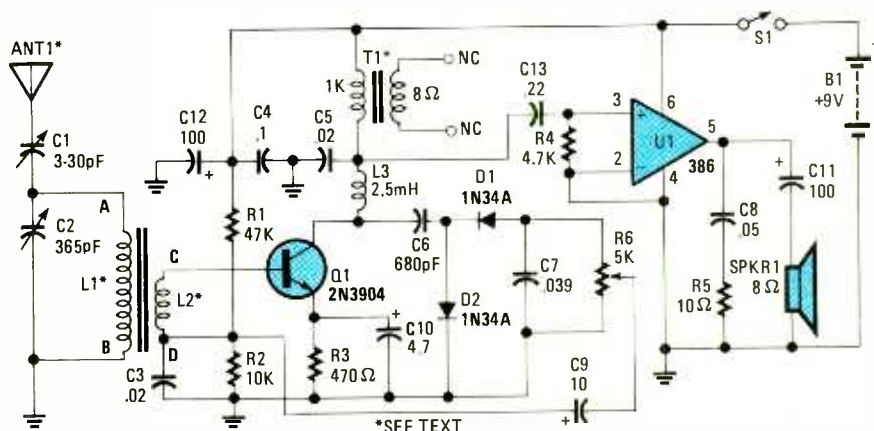

Fig. 3. Our solid-state version the Reflex Receiver is based on a popular circuit of the 1920's.
**Reflex Receiver.** Our second receiver's design, shown in Fig. 3, is based on a popular radio-reflex circuit of the 1920's. At that time radio was just catching on and home-made sets were being built at a fever pitch among experimenters. Back then, component pricing governed the pace of assembling a receiver; for example, the cost of a single receiving tube could be as much as a good day's wage. So any circuitry magic that would allow the same tube to be used for more than one function in the same circuit was indeed a very favorable choice of the day. The reflex-circuit design lets a single-tube radio perform like a more costly two-tube receiver.